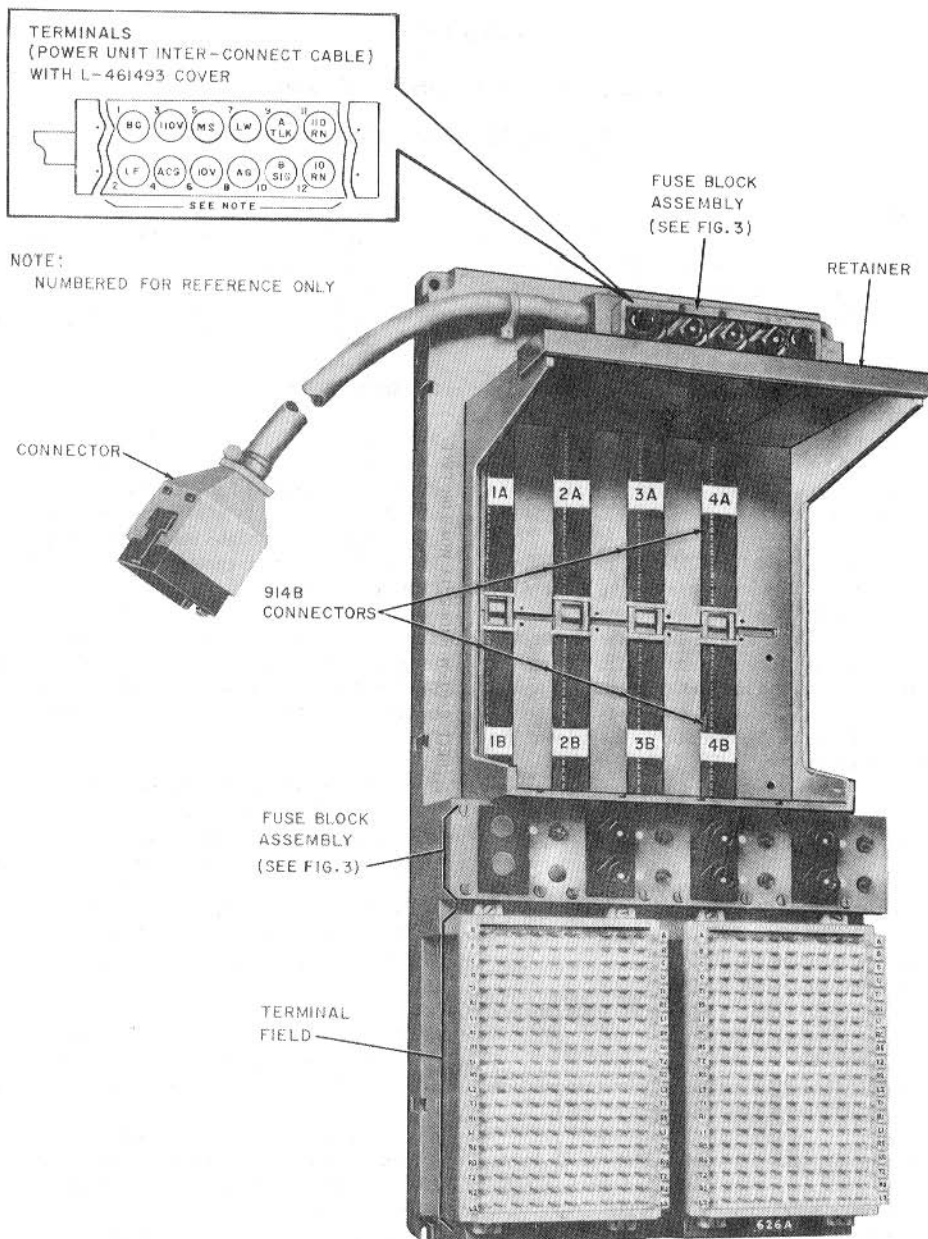

Fig. 1—626A Panel
2.01 The 626A panel (Fig. 1) is designed for use with the 1A2 Key Telephone System (KTS). It provides a means for interconnecting a number of button-per-path type dial intercoms. The 626A panel can accommodate intercom configurations of 1, 2, or 3 paths with capacities of 19 or 37 stations. Intercom paths are selected by operation of the associated button on KTSs. Rotary and/or TOUCH-TONE® dialing can be provided. Lead terminations are provided in a quick-connect field to facilitate connecting optional features and for connecting to station blocks of a 1A2 KTS cross-connect field.